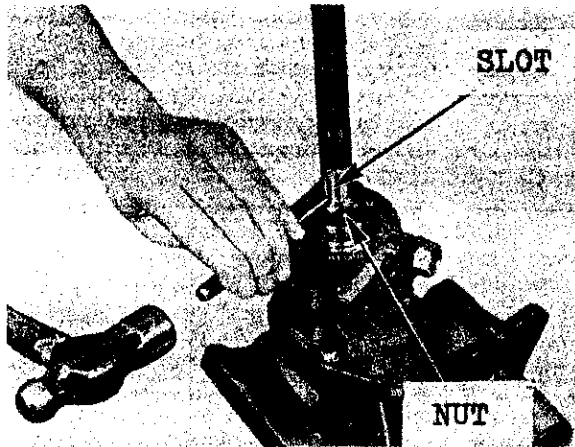

Fig. 16—When valve retaining nut is properly positioned as explained in text; stake nut to slot in shaft as shown.
21. Install new seal (24) in adapter (23) with lip of seal up (towards control valve). Install the adapter over steering shaft and to steering gear housing with a new 0.005 thick paper gasket (19) and tighten the retaining nuts to a torque of 25 Ft.-Lbs. Place new "O" ring (25) in groove in top of adapter. Place the small race, bearing retainer and large race over steering shaft and against shoulder on shaft. Lubricate valve spool and insert in housing with identifying groove in same direction as when removed. Insert the check valves in same bore from which they were removed and with open ends inward. Lubricate and insert the six plungers in the remaining bores with a spring between each set of plungers. Carefully place the assembled valve unit on steering shaft next to thrust bearing with the offset cylinder ports upward as shown in Fig. 16. Place large race of upper thrust bearing on shaft against valve, then install bearing retainer and small race. Place spring washer on shaft against small thrust bearing race with cup side of washer towards the race. Install a new lock nut, tighten the nut so that all end play is removed, then loosen the nut 1/6-turn and stake the nut to locating slot in steering shaft as shown in Fig. 16. Reinstall the steering column as outlined in paragraph 19.